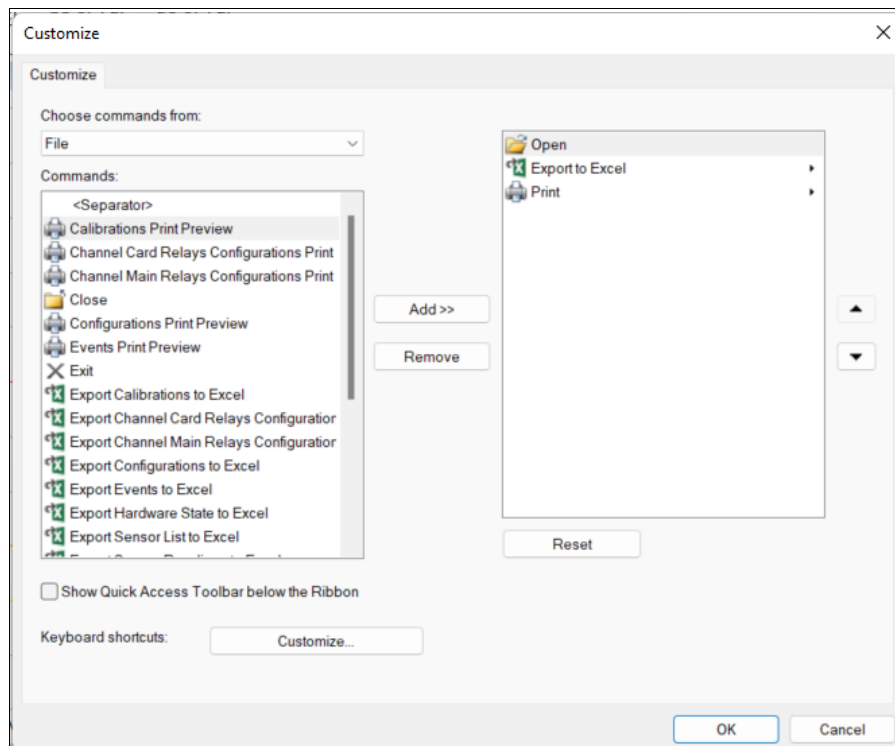

Figure 137: Add/Remove Toolbar Commands
- allows commands to be added or removed from the toolbar (see Figure 137 below)